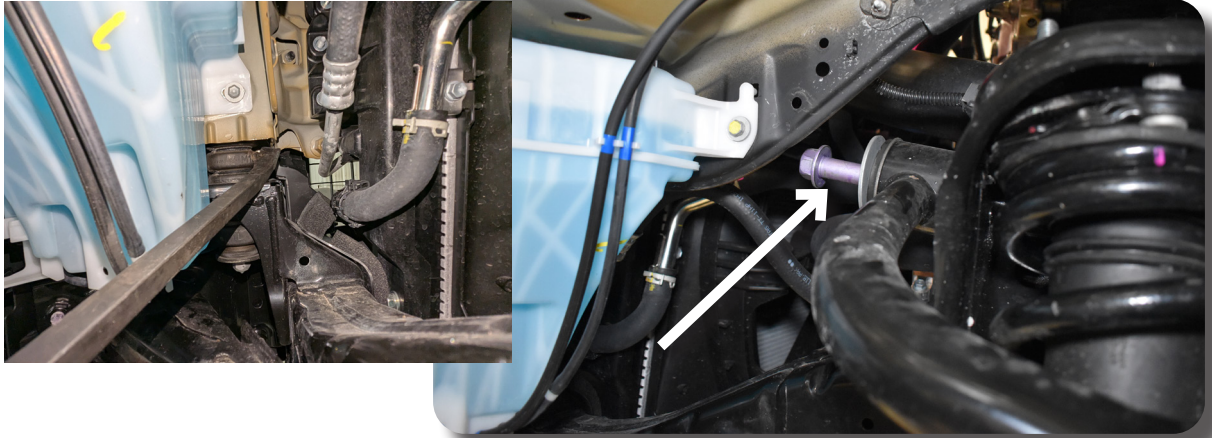

Figure 13
17. Remove UCA bolt and washer. Fig. 13